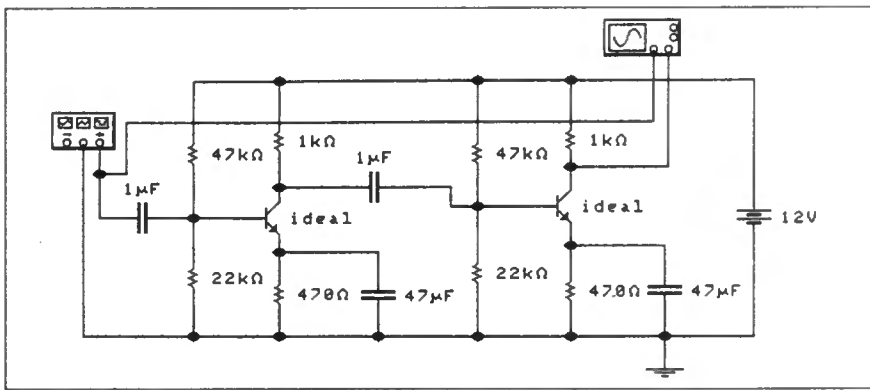

Fig. 4.36 Two-stage Class-A common emitter amplifier (Assignment 4.4).
1. Connect the circuit shown in Fig. 4.36. Set the waveform generator and oscilloscope controls as shown in Fig. 4.37.